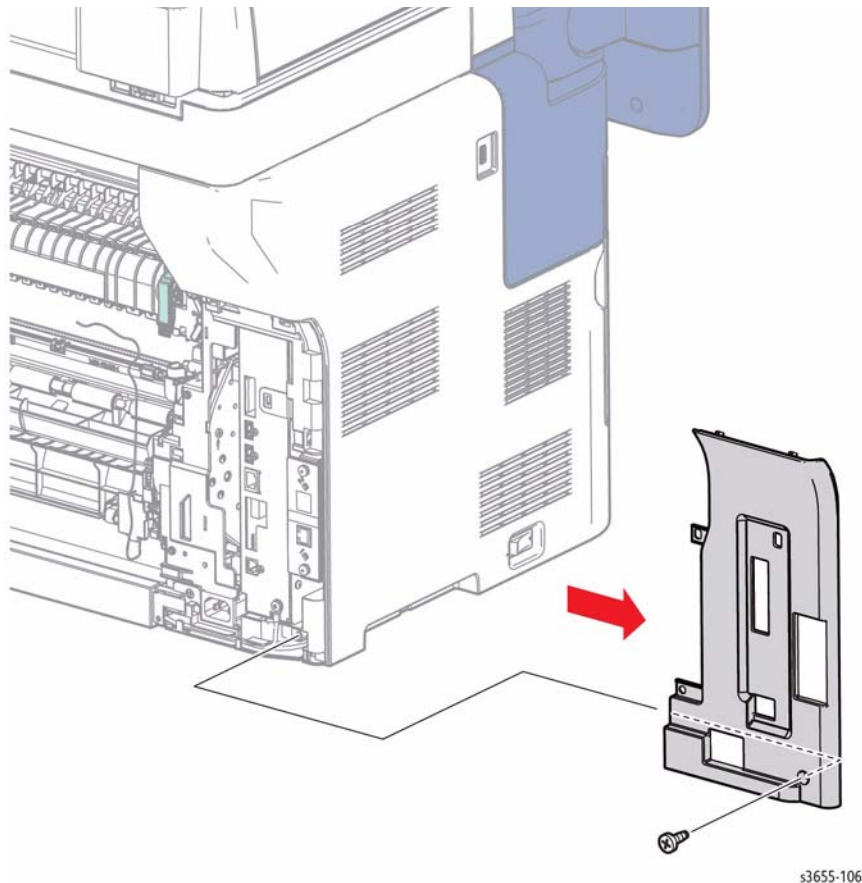

Figure 1 Remove Left Rear Cover
3. Refer to Figure 1 to locate and remove 1 screw (silver, tapping, 8mm), release 2 bosses and slide to the right to remove the cover.